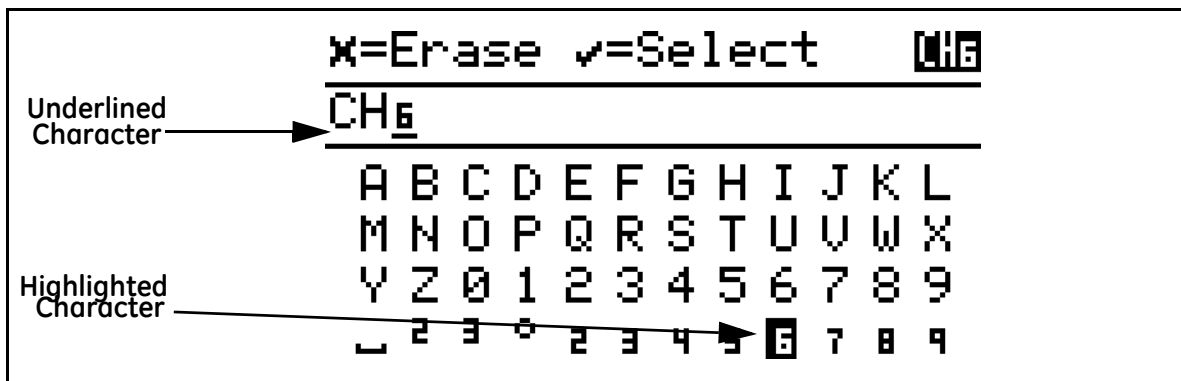

Figure 16: Alphanumeric Menu with Keyboard Highlighted
- Pressing the **Down** arrow will move the highlight to the **Keyboard** section (see *Figure 16* below):